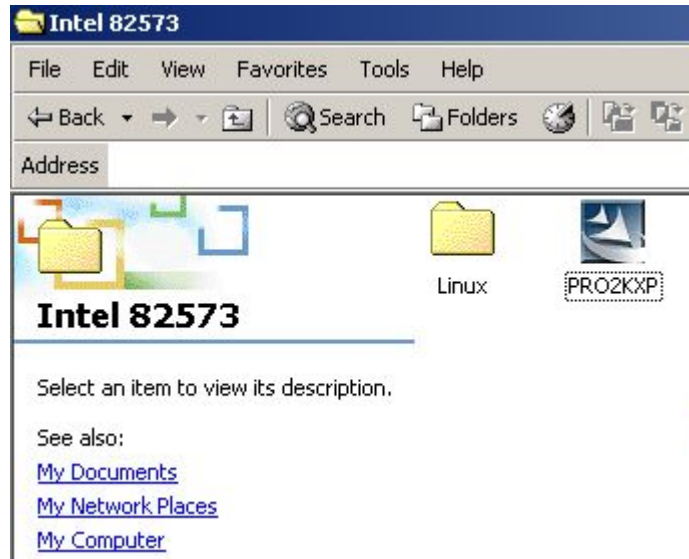

Figure 7-33: Intel® 82573 Driver Startup Icon
Step 11: Click the startup icon in **Figure 7-33**.